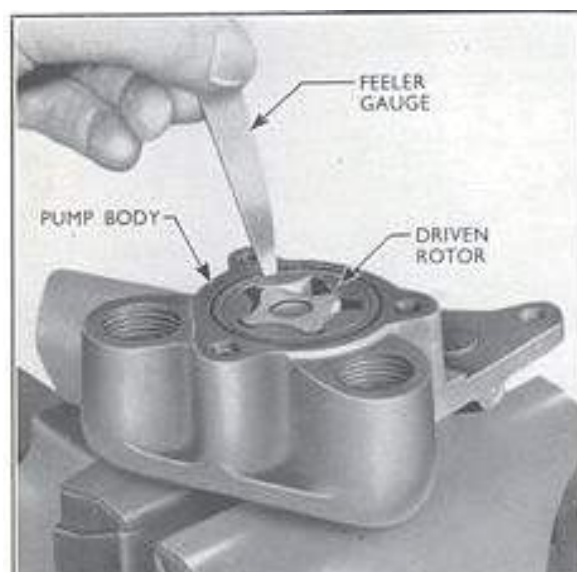

Fig. 34
3. Check the clearance between the driven rotor and the pump body as shown in Fig. 34. If the clearance exceeds 0.010 in. (0.254 mm.) replace the pump body and rotor assembly.